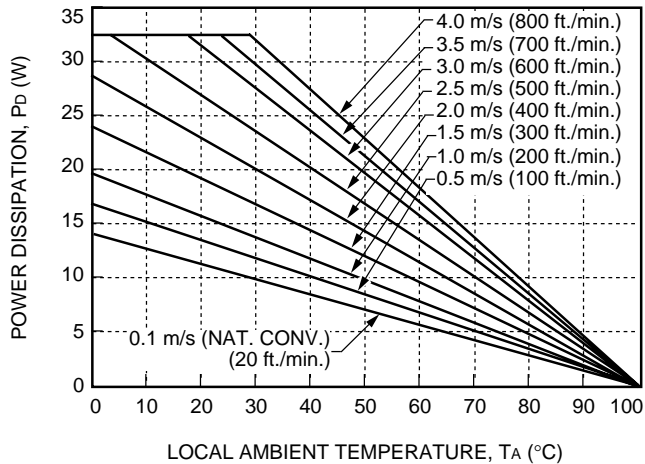

Figure 27. Forced Convection Power Derating with No Heat Sink; Either Orientation
Increasing airflow over the module enhances the heat transfer via convection. Figure 27 shows the maximum power that can be dissipated by the module without exceeding the maximum case temperature versus local ambient temperature (TA) for natural convection through 4 m/s (800 ft./min.).
Note that the natural convection condition was measured at 0.05 m/s to 0.1 m/s (10 ft./min. to 20 ft./min.); however, systems in which these power modules may be used typically generate natural convection airflow rates of 0.3 m/s (60 ft./min.) due to other heat dissipating components in the system. The use of Figure 27 is shown in the following example.
Determine airflow (v) (Use Figure 27.):